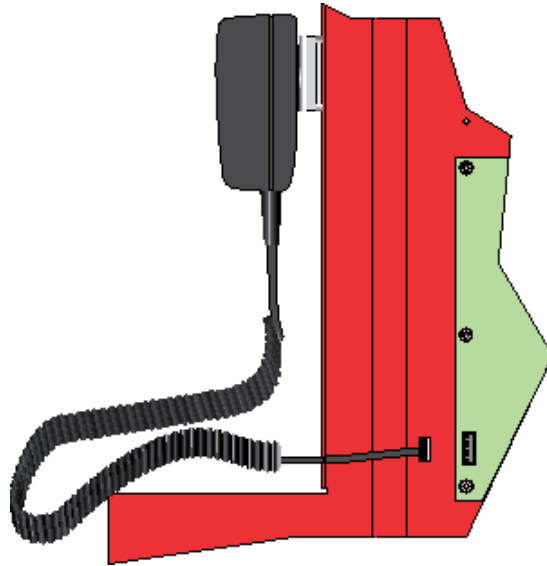

Figure 4-9 Microphone Cord Inserted Through Dead Front Panel Hole
2. Insert Microphone cord through hole at the bottom of the dead front panel. See Figure 4-9.